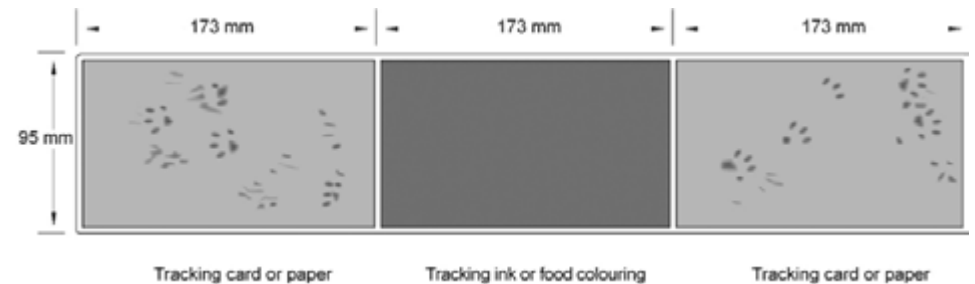

Figure 3. Tracking tunnel tray showing paper/card and tracking ink tray.
- Polycarbonate trays: 520 mm (L) × 95 mm (W), with each of the three partitions being 173 mm (L) (Fig. 3).
- Papers: each paper should be pre-cut to 173 mm (L) × 95 mm (W) (Fig. 3). We strongly suggest you source this pre-cut
- Sponge: 173 mm (L) × 95 mm (W); 3–5 mm thick.